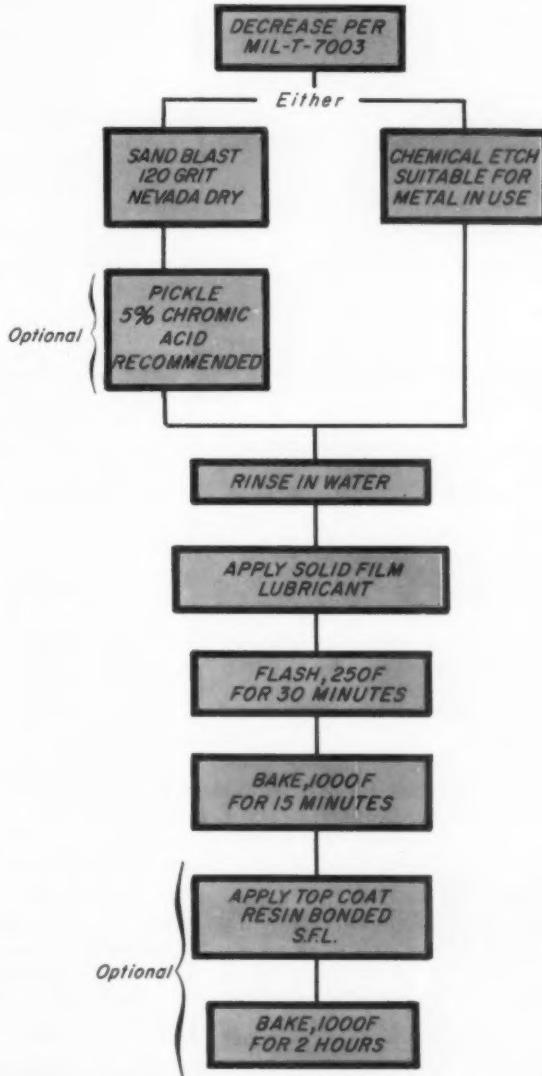

FIG. 2. SURFACE PREPARATION methods for metals to be coated with solid film lubricant.
is prepared to insure cleanliness and good adhesion. Figure 2 shows typical preparation procedures. The light sand blast provides a surface with enough developed area to assure good adhesion. Coefficients of friction for various metal combinations using this lubricant are given in Table 2.
1. All specimens processed as per fig. 2.
Tests of wear rates with several ceramic-bonded solid film lubricants have been made. Results of some of these are shown in Figure 3. Tests were made using a flat block rubbing against the outer surface of the outer race of a tapered roller bearing. Specimens were prepared by the procedure outlined in Figure 2 to the dimensions indicated in Figure 4.